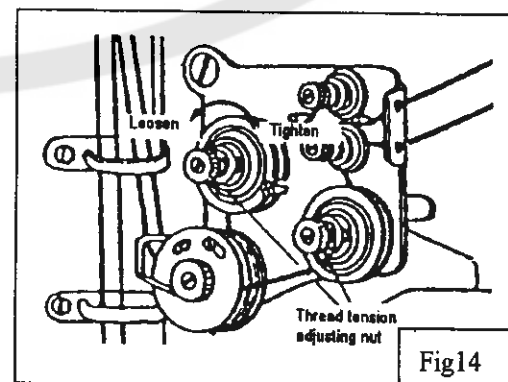

Fig14
10. Upper thread tension (Fig.14):